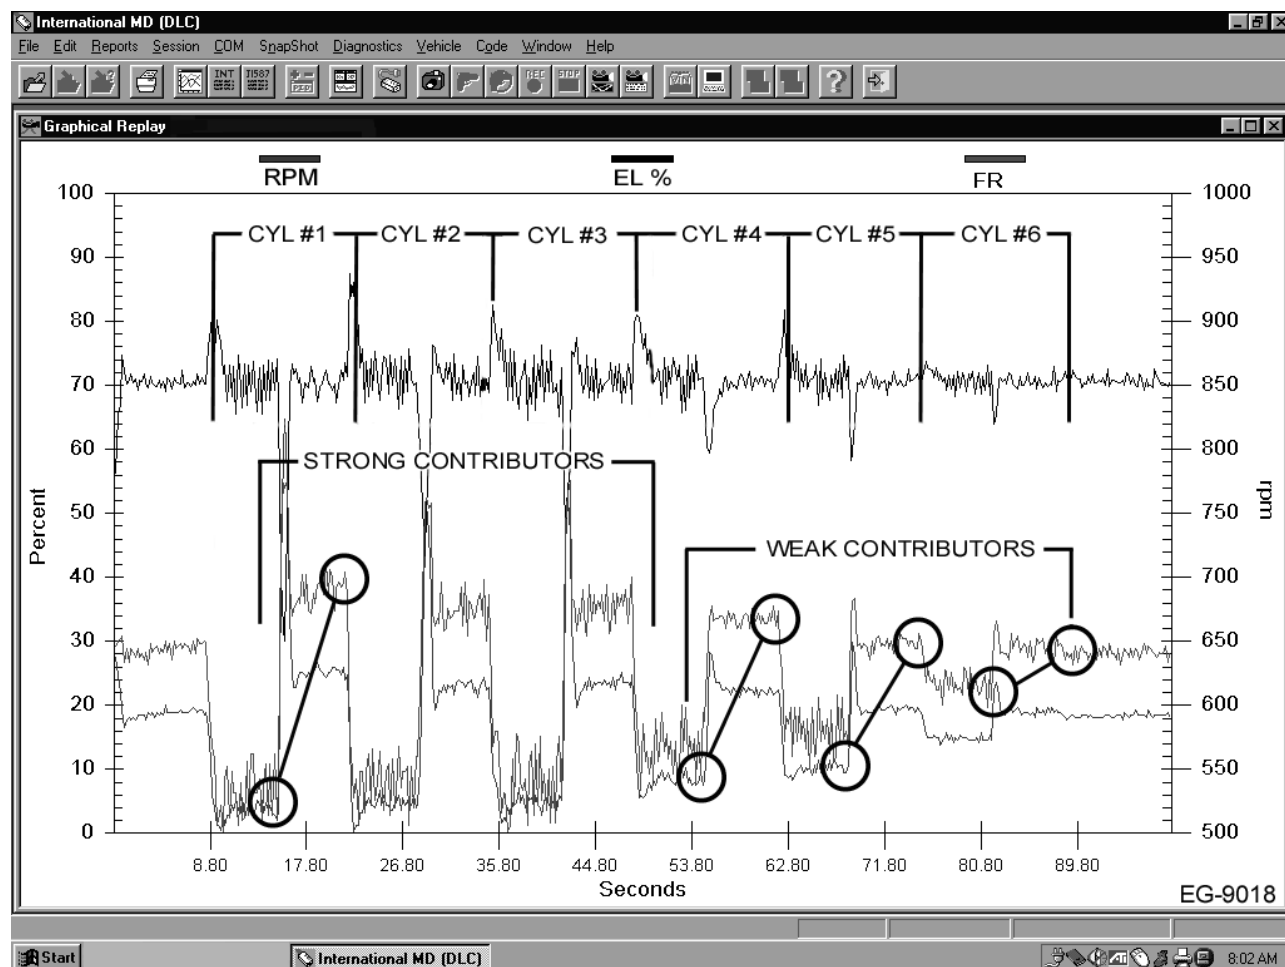

Figure 174 Interpreting Graphical Data – Poor Cylinder Contribution
11. The following graphic is an example of how a low fuel delivery injector looks during the test. (See Figure 174, page 369)